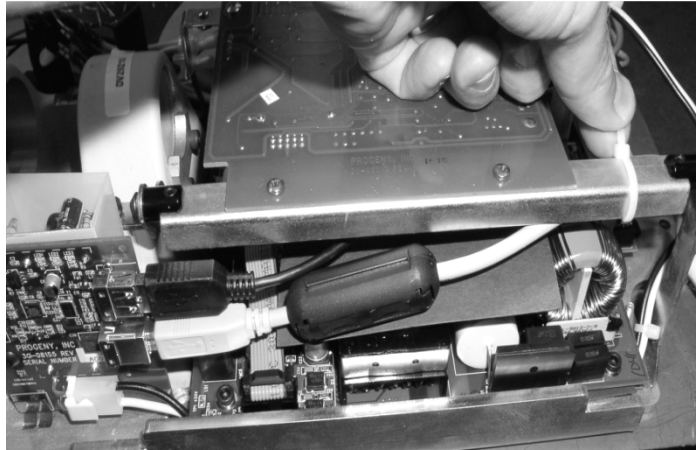

Figure 17: Dressing of the outbound 5 m USB cable
4. Dress the outbound 5 m USB cables with cable ties as shown on Figure 17.